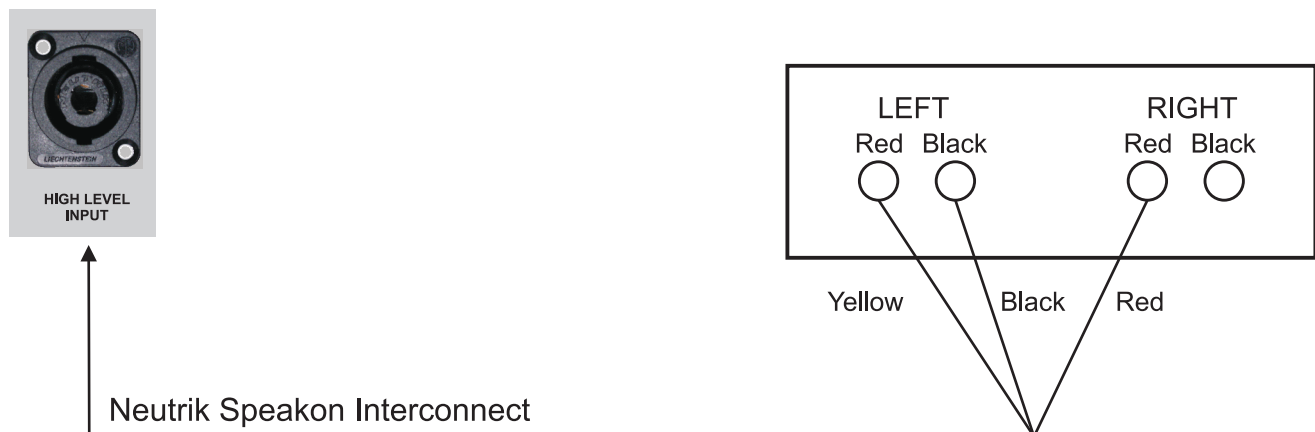
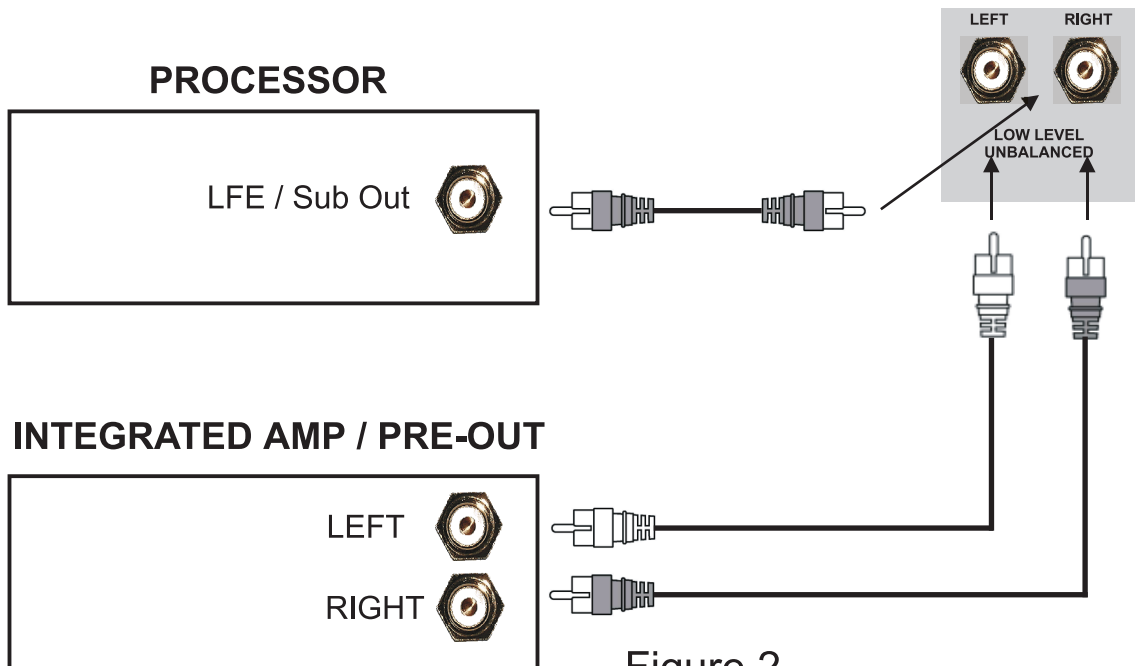

Figure 1.
Figure 2.
Figure 1. Shows a diagram on how to connect the high level input. Using the optional Neutrik lead, connect the Monolith to the output of your amplifier via your existing speaker plug or to a spare set of speaker terminals if available. In effect you are Bi-Wiring your Monolith to your power amp. Please note that the Neutrik cable has only three leads and is arranged this way to preserve the star earthing of your amplifier (assuming it has a star earth arrangement).
Figure 2. Shows a diagram on how to connect the low level input. Using the supplied RCA to RCA interconnect, plug one end into the Monolith low level input and the other end into the dedicated sub output on your amplifier or processor. If a sub out is not available then you can use a spare set of pre-amp outputs.
- Connect your Monolith as shown in Figure 1 or Figure 2. Then attach your subwoofer to the power supply using the power cable supplied, at this point have the power switch in the off position.